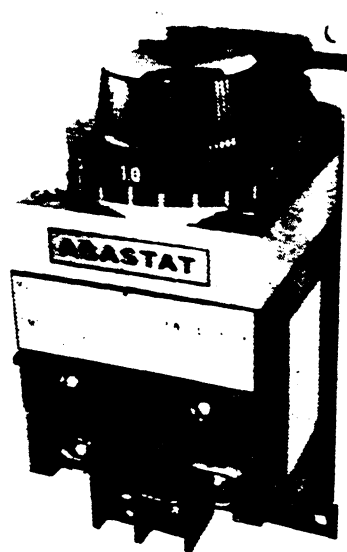

FIGURE 16. PROGRAMMED TRANSITION TIME DELAY RELAY
- Locate the programmed transition timer (Figure 16) mounted on the upper right-hand corner of the transfer switch base. Adjust the time delay using marks on knob.